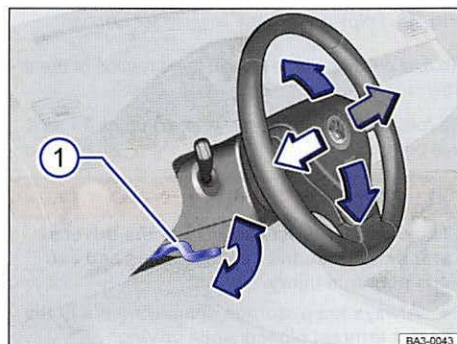

Fig. 41 Manual adjustment for the steering wheel position.
- Push down on the lever ⇒ fig. 41 ①.